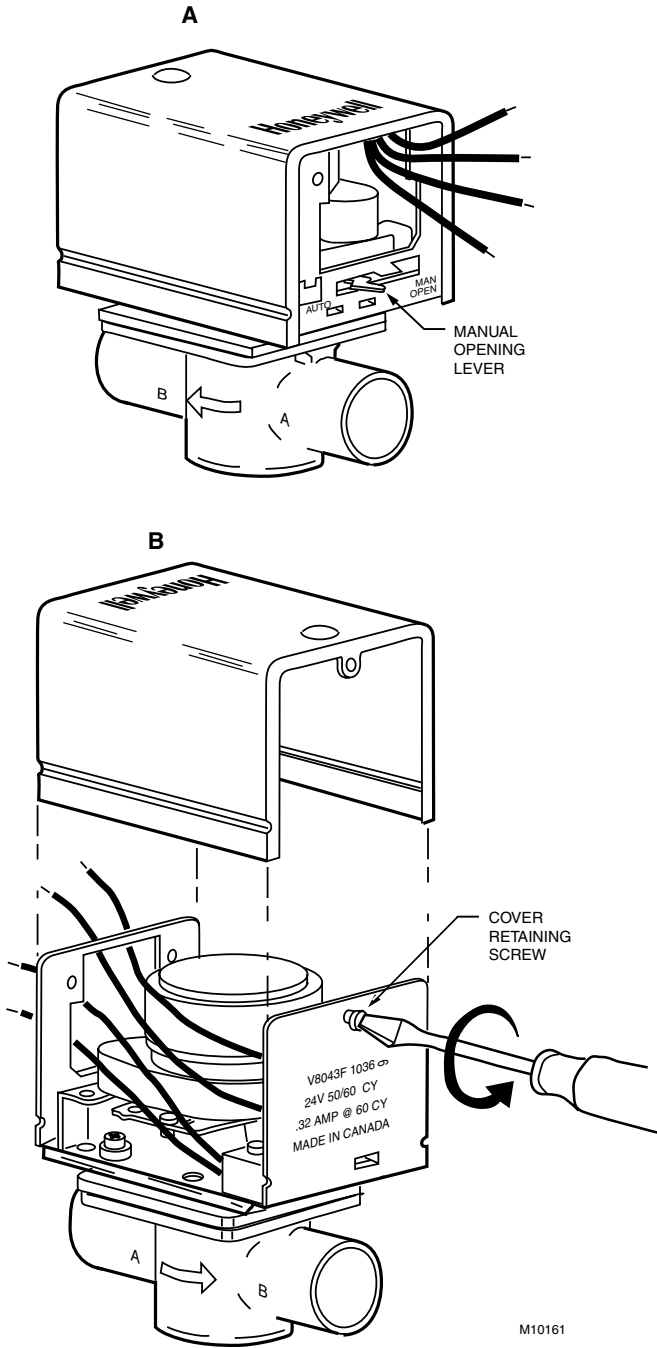

Fig. 13. Remove old powerhead from systems using new style valve bodies.
- ❶ Disconnect the power supply before connecting the wiring to prevent electrical shock or equipment damage.
- ❷ Disconnect the leadwires to the powerhead at the terminal block or conduit connection. Remove the conduit or cable connector, if fitted. Label each wire for rewiring.
- ❸ Remove the old powerhead (see Fig. 13):